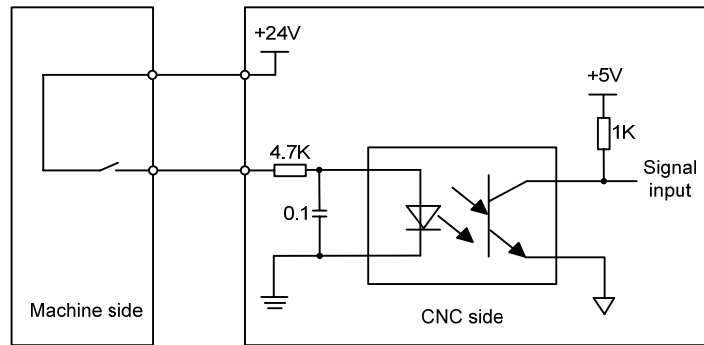

Fig. 3-2-1-1
- b) The signal loop of this signal is depicted in Fig. 3-2-1-1